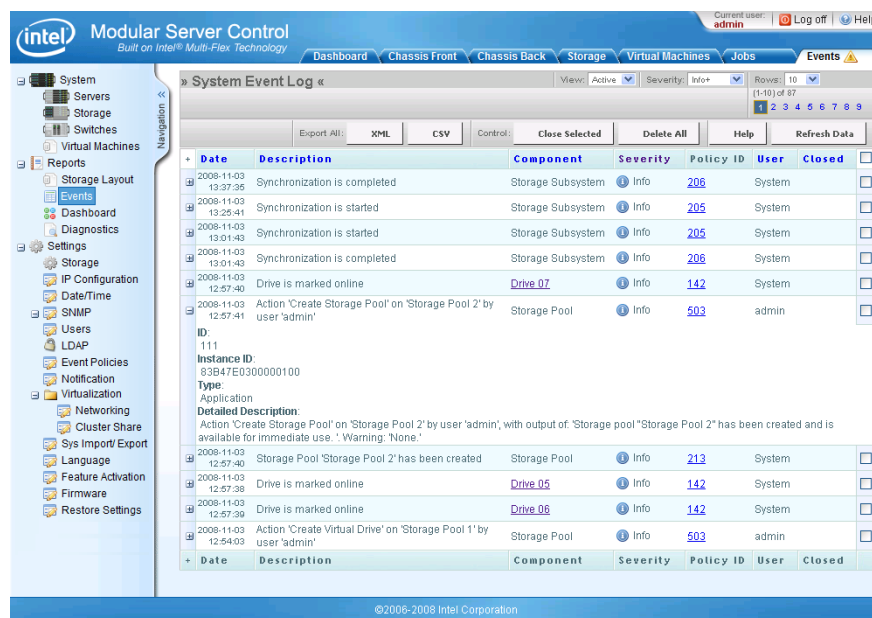

Figure 75. System Event Log Screen
- View event details: Click on the + sign to the left of the specific event row to display further details about the event, as shown in Figure 75. Clicking on the Policy ID